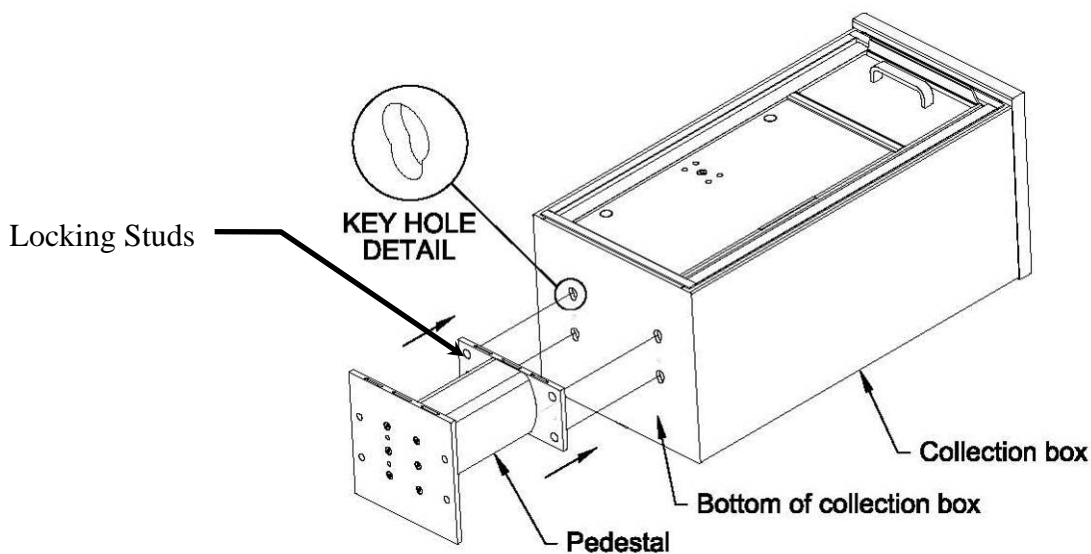

Figure 1 – Installing Pedestal to Cabinet
- b) Insert pedestal locking studs in key holes in the bottom of the cabinet. (See Figure 1)